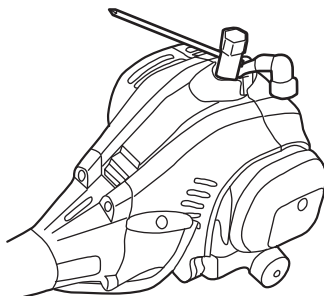

Fig. 28a
2. Unplug the spark plug connector (A2). Loosen the spark plug with the socket wrench (E1) anticlockwise and carefully remove it. (See Fig. 28a)